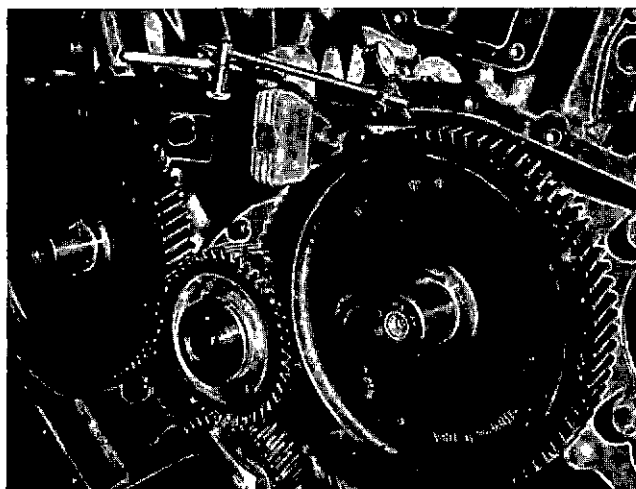

Fig. 14-1-35, V414137. Check camshaft backlash
4. Attach a dial indicator to gear case. Place indicator arm on camshaft gear teeth. Fig. 14-1-35.